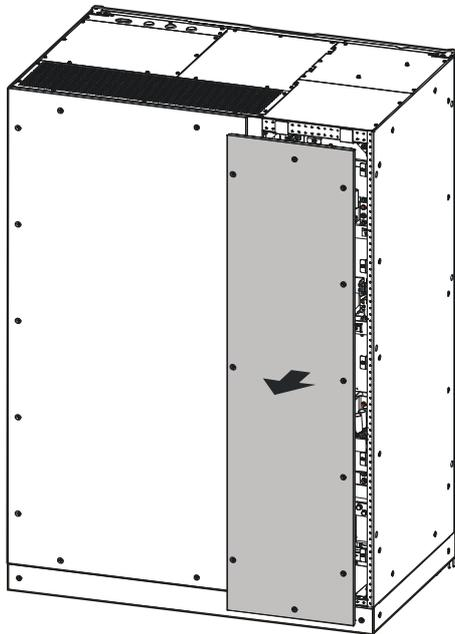

Figure3-26 Dismantle wiring cover plates of BM33500、 BM33600
Step 1 Use the cross screwdriver to remove the screws from the wiring block, and dismantle wiring cover plates, as shown in Figure3-26.